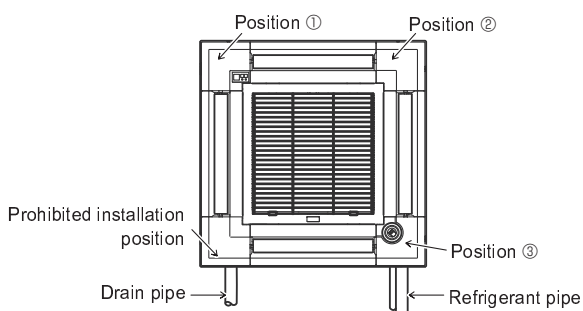

Fig. 6-11
The signal receiver corner panel can not be installed on the drain pipe side for the main unit. (Refer to Fig. 6-11)
- The i-see Sensor corner panel should be fixed onto the grille (D) with screw (F).
- * If the position of the i-see Sensor was changed from default position (position ③) to the other position, change the function settings. (Fig. 6-11)
- The i-see Sensor corner panel can not be installed on the drain pipe side for the main unit. (Refer to Fig. 6-11)